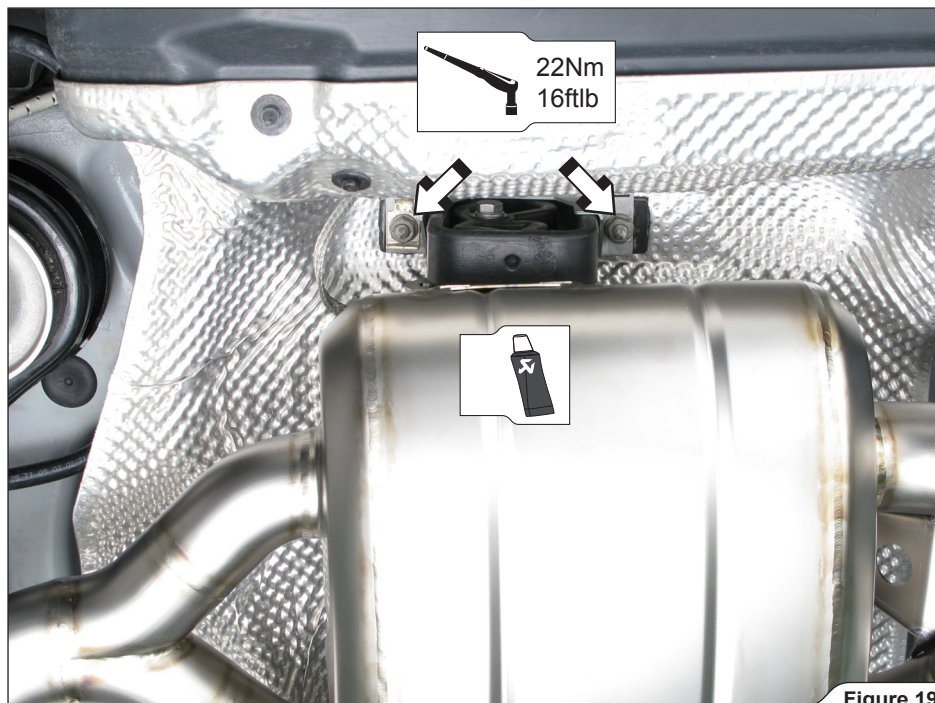

Figure 19
9. **For Slip-On and Evolution:** tighten the stock muffler brackets and ground wires to the vehicle chassis (Figure 19).